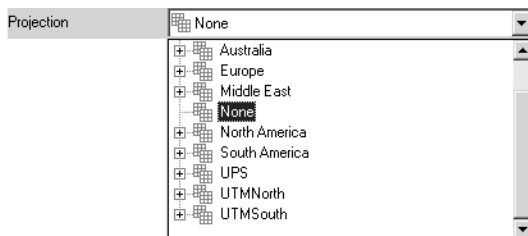

Figure 3-36. Projection List
- the Projection type (Figure 3-36).